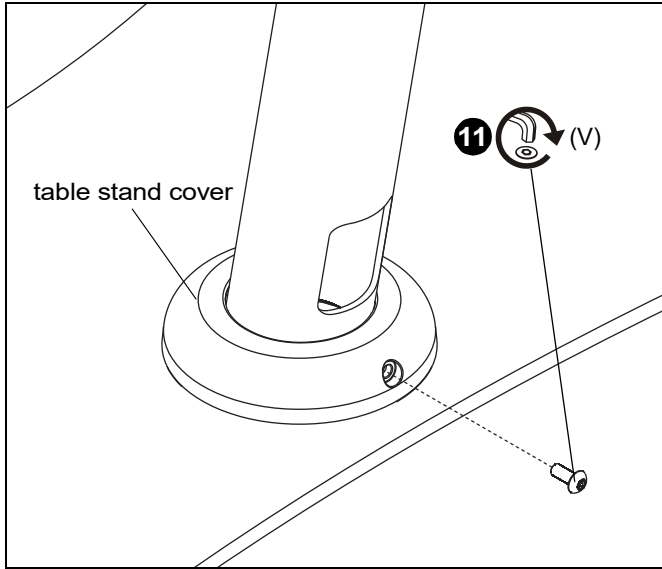

Figure 4
- Use #10-24 x 1/2" security screw (V) to secure table stand cover to table stand (R). (See Figure 4)